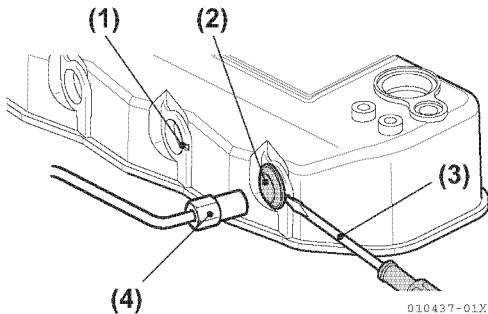

Figure 5-37
- Remove the pipe seals from rocker arm cover. Insert a flat-bladed screwdriver into the slotted part of the rocker arm cover and remove it. Remove the rocker arm cover after removing the pipe seals (Figure 5-37).